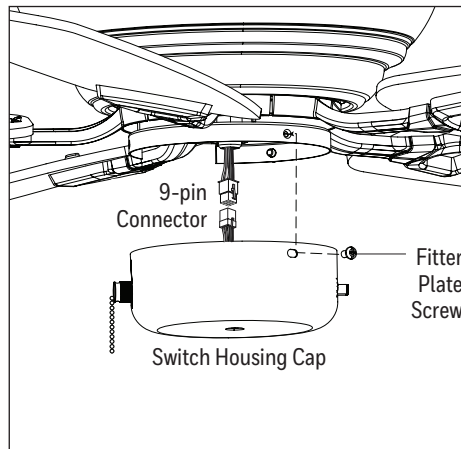

Figure 3.2
2. Remove the three fitter plate screws from the fitter plate. Then connect the 9-pin connector from the fitter plate to the 9-pin connector from the light kit. Attach the switch housing cap to the fitter plate using the fitter plate screws (Figure 3.2).